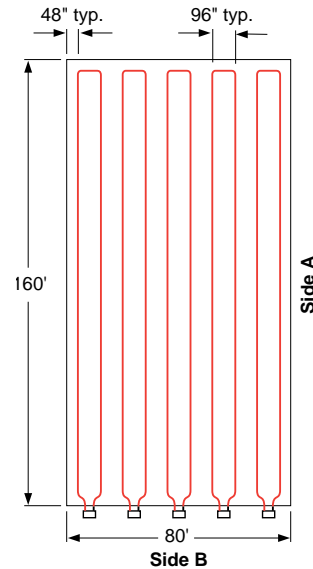
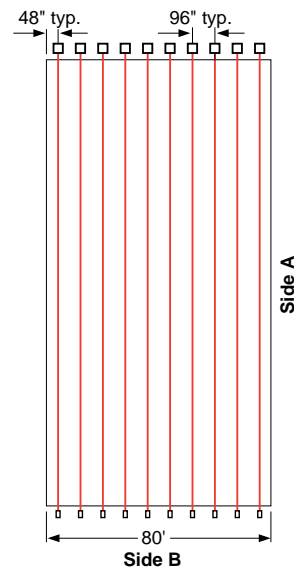

Figure 5.2. Hairpin layout
Figure 5.3. Straight run layout
Let side "A" be the side the conduit runs parallel to. Side "A" cannot be greater than the maximum circuit length. Let side "B" be the side that is perpendicular to the conduit runs. Refer to Figures 5.2 and 5.3 for examples of side A and side B.
When the maximum circuit length is greater than or equal to side A times two, then the conduit run can be looped into the hairpin layout (Figure 5.2). In a hairpin configuration, when you have an odd number of circuits, one circuit will be a straight run.
When the maximum circuit length is less than side A times two, then use a straight run layout (Figure 5.3).
- The hairpin layout (Figure 5.2) is used both in smaller freezers where it results in material and labor savings over the straight run layout (Figure 5.3), and in other freezers where only one wall of the freezer is accessible for mounting junction boxes.
- The straight run layout (Figure 5.3) is used when the freezer dimension exceeds one-half the maximum heating cable circuit length (insufficient heating cable allowed for a run down and back).
This example is based on Figure 5.3 on page 27. It represents a freezer-floor frost-heave-prevention application where the freezer temperature is -20°F and the floor is insulated to R-40.